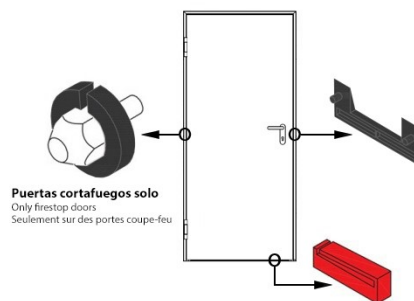

Fig. 3
- > Once it's completely set, remove the protection elements of the leaf. Fig. 3.